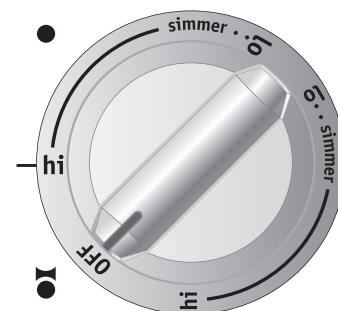
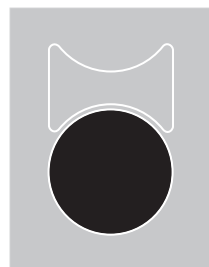

Figure 4
Figure 5
After using any of the element positions the cooktop will become very hot. Even after turning the control knob to OFF, the cooktop will remain hot for some time. The ESEC control monitors the temperature of the cooktop and displays the message "**HE**" (hot element) warning when the cooktop is still too hot to touch (See Fig. 5). If the **HE** message appears in the window, the control can still be turned ON again for use.
The cooktop is equipped with a "BRIDGE" surface element located at the left front and middle (See Figures 1 & 2) positions. The Bridge can be used when cooking with rectangular (like a griddle) or oval shaped cookware. The element will maintain an even temperature setting across both portions of the Bridge. If needed for normal cookware, the Bridge element can work like a single element without the Bridge (See Figure 5). The ● symbol indicates that only the front portion will heat (Fig. 3). The ☐ symbol indicates that both front and middle portions will heat (Fig. 4). You may switch from either coil setting at any time during cooking.
2. Push in and turn the control knob as shown in Figure 3 to heat the front portion of the Bridge element for normal shaped cookware or in Figure 4 for larger or rectangular shaped cookware.